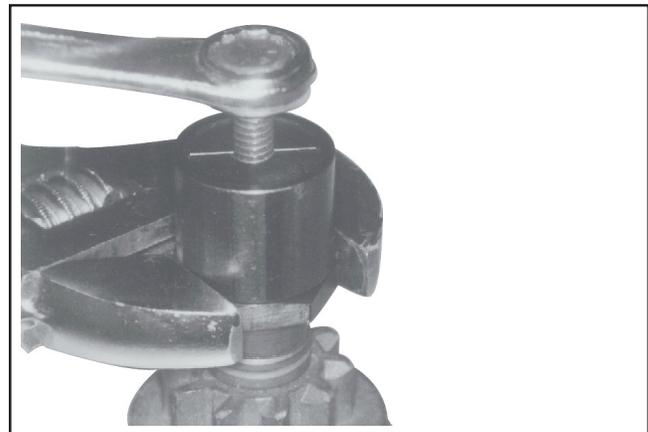

Figure 7-14. Holding Tool and Turning Center Screw (Clockwise) to Remove Retaining Ring.
4. Thread the center screw into the removal tool until you feel resistance. Use a wrench (1 1/8" or adjustable) to hold the base of the removal tool. Use another wrench or socket (1/2" or 13 mm) to turn the center screw clockwise (see Figure 7-14). The resistance against the center screw will tell you when the retaining ring has popped out of the groove in the armature shaft.